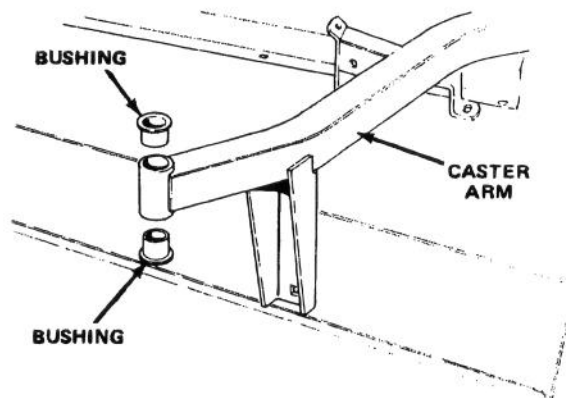

Figure 26
4. Insert pin punch into top or bottom of mounting tube and drive bushing out of tube (Fig. 26). Also drive other bushing out of tube. Clean inside of tubes to remove dirt.